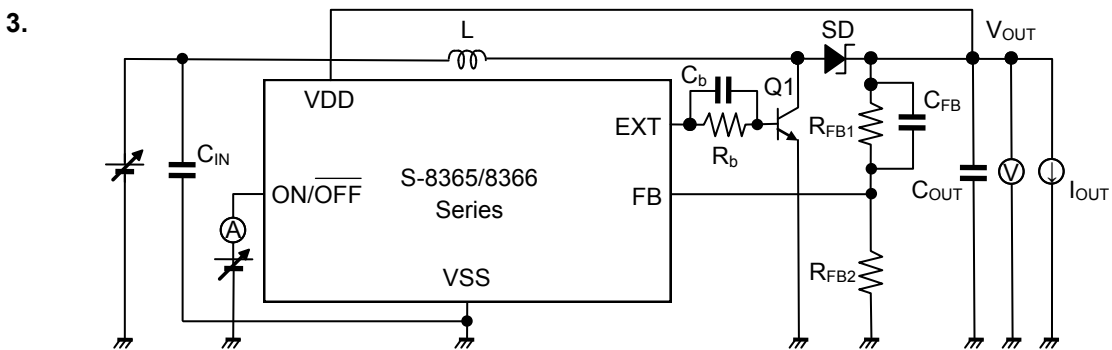

Figure 10
- *2. This is the guaranteed value measured with external parts shown in “Table 10 External Parts List” and with test circuits shown in Figure 10. The operating start voltage varies largely depending on diode’s forward voltage. Evaluate sufficiently with actual device.
*2. This is the guaranteed value measured with external parts shown in “Table 10 External Parts List” and with test circuits shown in Figure 10. The operating start voltage varies largely depending on diode’s forward voltage. Evaluate sufficiently with actual device.